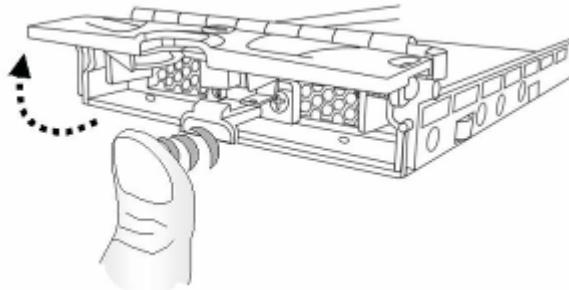

Figure 5-23: Opening the Front Flap
Step 3. **Open the front flap** by pushing the release button at the front of the drive tray. (See *Figure 5-23*) The front flap will automatically swing up into position.